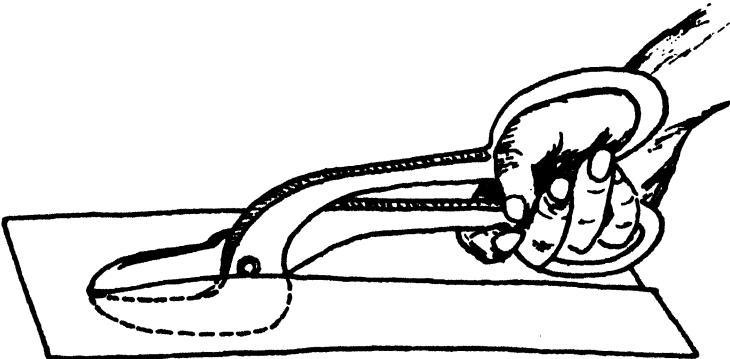

FIG. 60. "SLITTING" TIN SHEARS.
the effort (E). The effort arm ( $Ea$ ) is made longer than the resistance arm ( $Ra$ ), when this lever is used to gain mechanical advantage, because this arrangement makes the effort applied less than the resistance to be overcome. A pair of tin snips, Fig. 60, is a first class lever of this type.